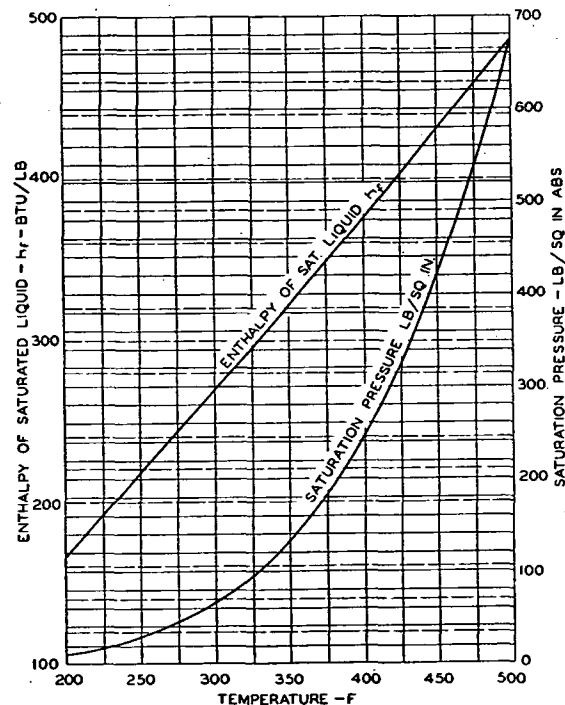

FIG. 19. RELATION OF SATURATION PRESSURE AND ENTHALPY TO WATER TEMPERATURE
1. Boiling point (t) vs. pressure. (See Fig. 19)